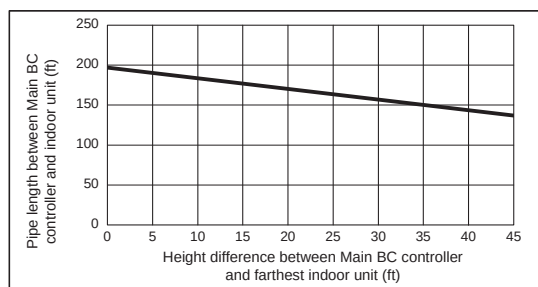

Fig. 2
*2. Details refer to Fig. 2.
*7. When the piping length or the vertical separation exceeds the limit specified in Fig. 2, connect a sub BC to the system. The restriction for a system with a sub BC connection is shown in Fig. 3.
When using indoor models P54 or larger, the restrictions shown in Fig. 2 cannot be exceeded.
*7. When the piping length or the vertical separation exceeds the limit specified in Fig. 2, connect a sub BC to the system.